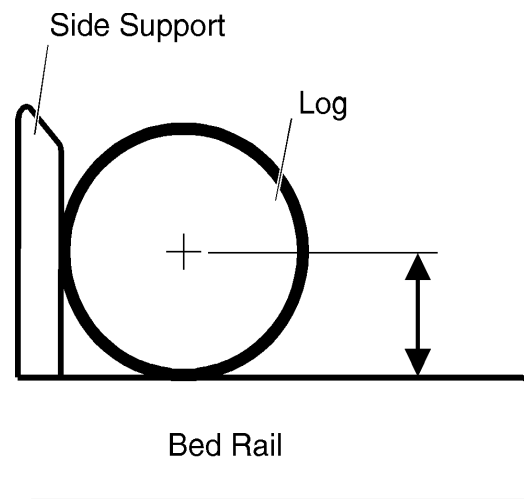

FIG. 1-6
1. Measure from the bed rail or auxiliary support to the heart of the log. **See Fig. 1-6.**